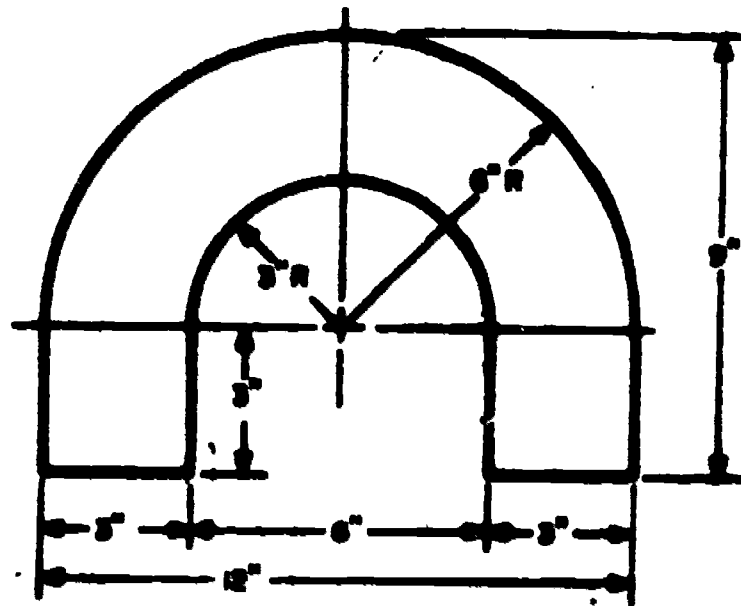

Figure 4. Shop Drawing of Wheel Cover and Dimensions.
2. Fabricate a template using the dimensions in the shop drawing shown in Figure 4.